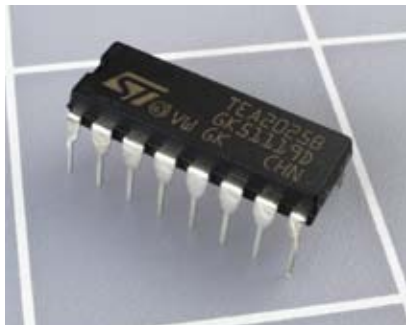

Figure 5-36. This single chip contains a stereo amplifier capable of delivering a total of 5 watts into an 8Ω speaker when the two channels are combined.
- Audio amplifier, STMicroelectronics TEA2025B or similar. Quantity: 1. See Figure 5-36.